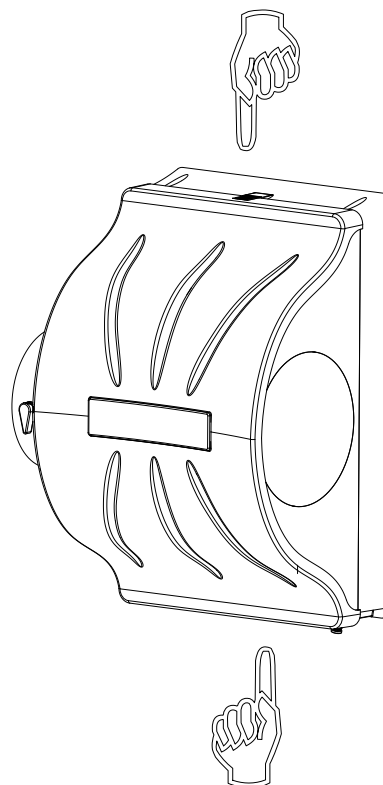

Figure 10
4. To remove the humidifier cover, press the release pads as shown in Figure 10 and pull the cover toward you.